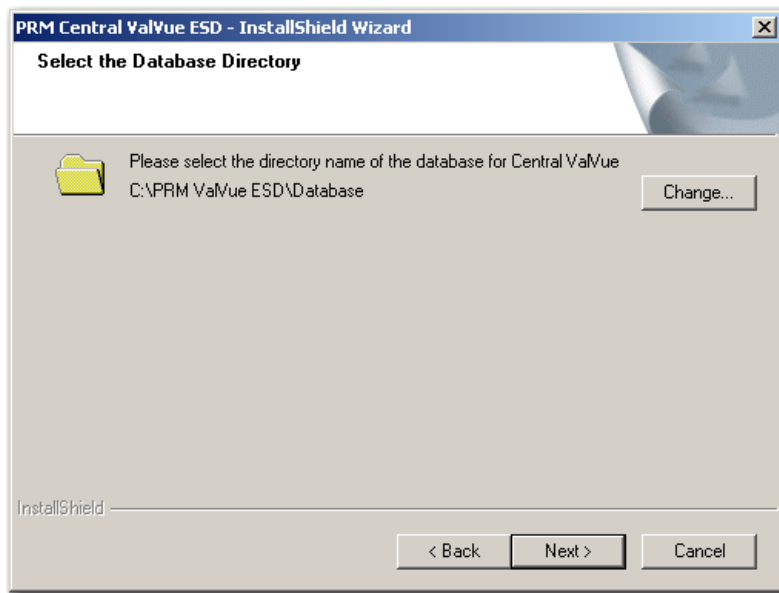

Figure 13 PRM Central Server Database Directory Destination Folder
7. Click **Next** and the screen appears (Figure 13).